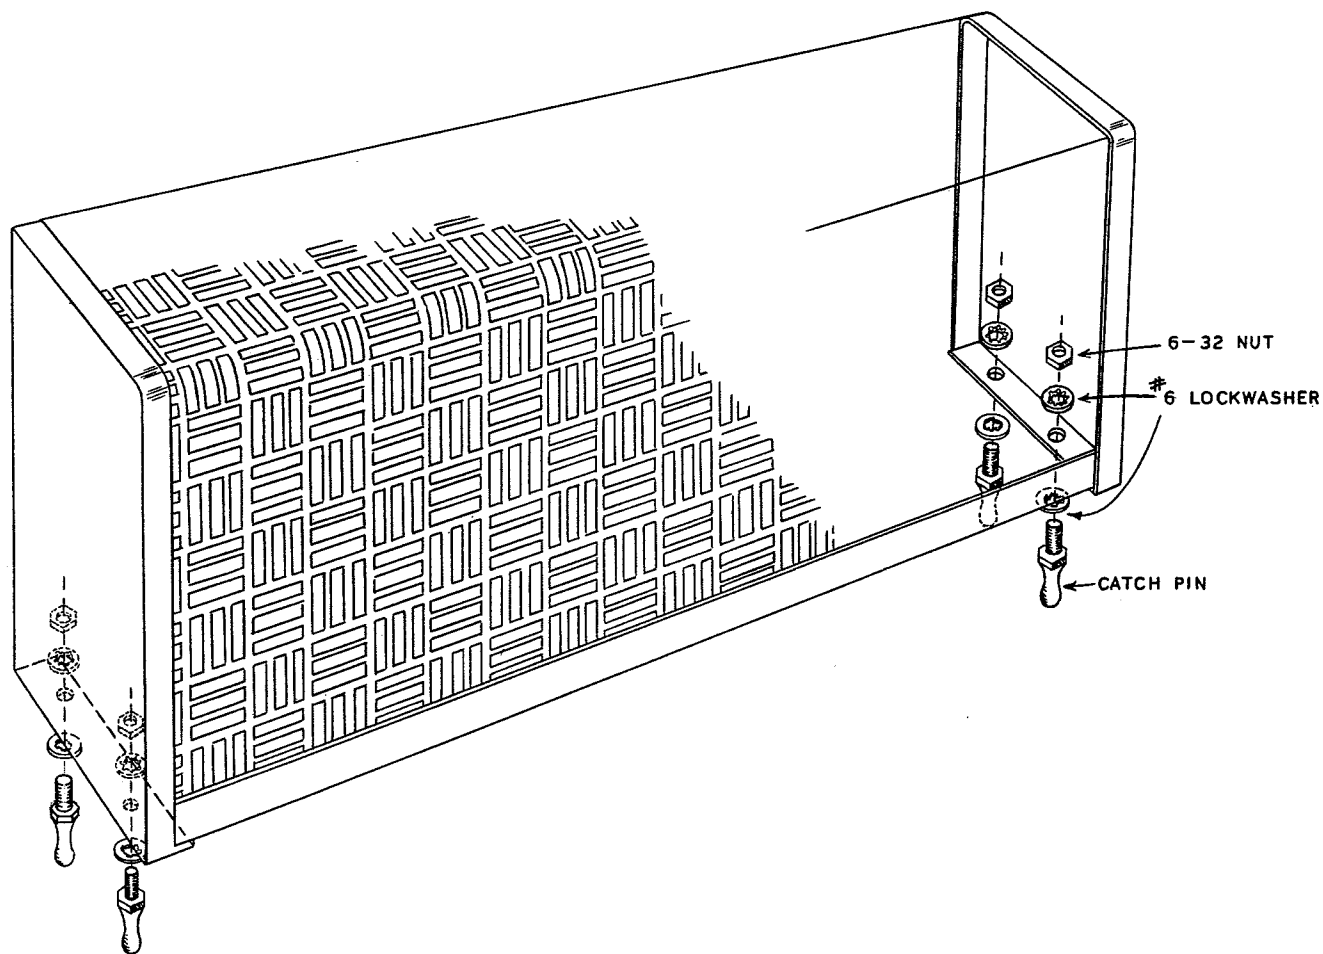

Figure 17
- () Prepare the tube cage, by installing the four catch pins on the end flanges. See Figure 17. Install the tube cage atop the chassis over the five tubes. Secure by pressing down firmly, to engage the pins in the four catch clips.